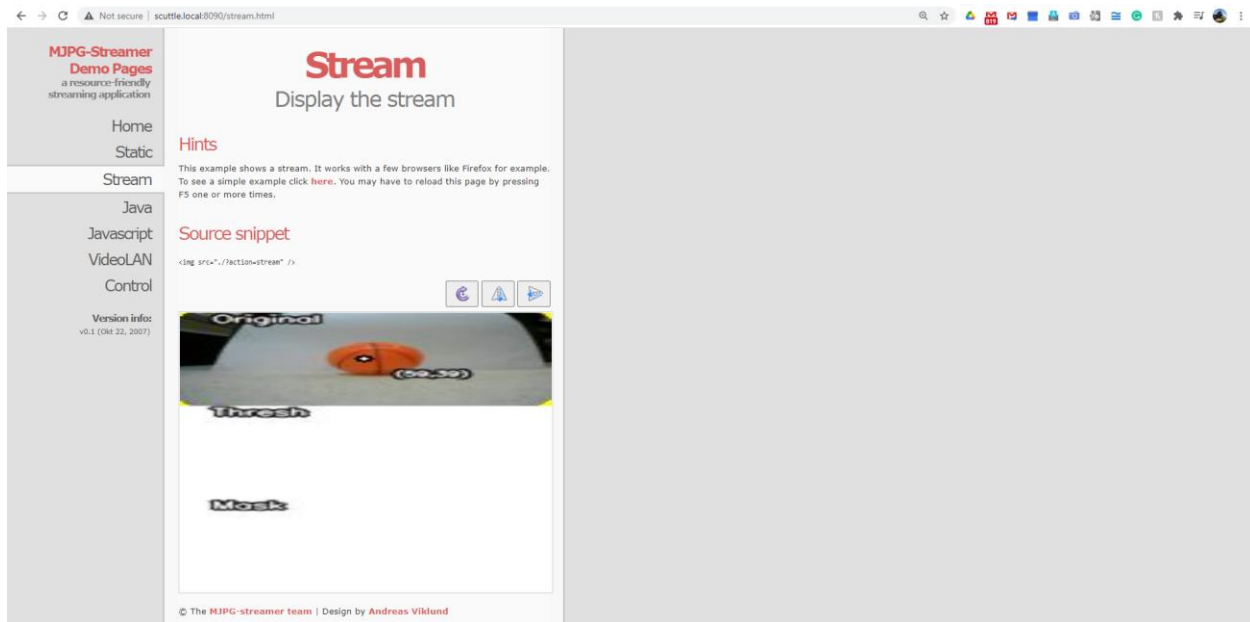

Figure 21
a. This should open another tab in your browser that displays three live streams of the camera you have connected to the SCUTTLE which should look like Figure 21 below.